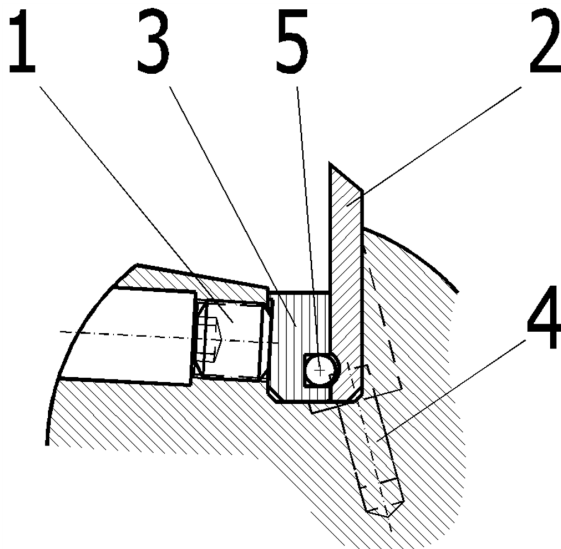

Fig. 1
(see Fig.1 und 2)
2. Loosen the set screw (1) with an Allen key only so far until gib (3) with profile knife (2) can be completely removed from the knife seat.
4. Assemble new knife and gib outside of the knife seat. Make sure, that the safety pin (5) of the gib engages into the groove provided for by the profile knife.
5. Mount the profile knife together with the gib precisely into the knife seat (see Fig. 1). Make sure, that the stop edge of the knife lies-on to the knife seat.